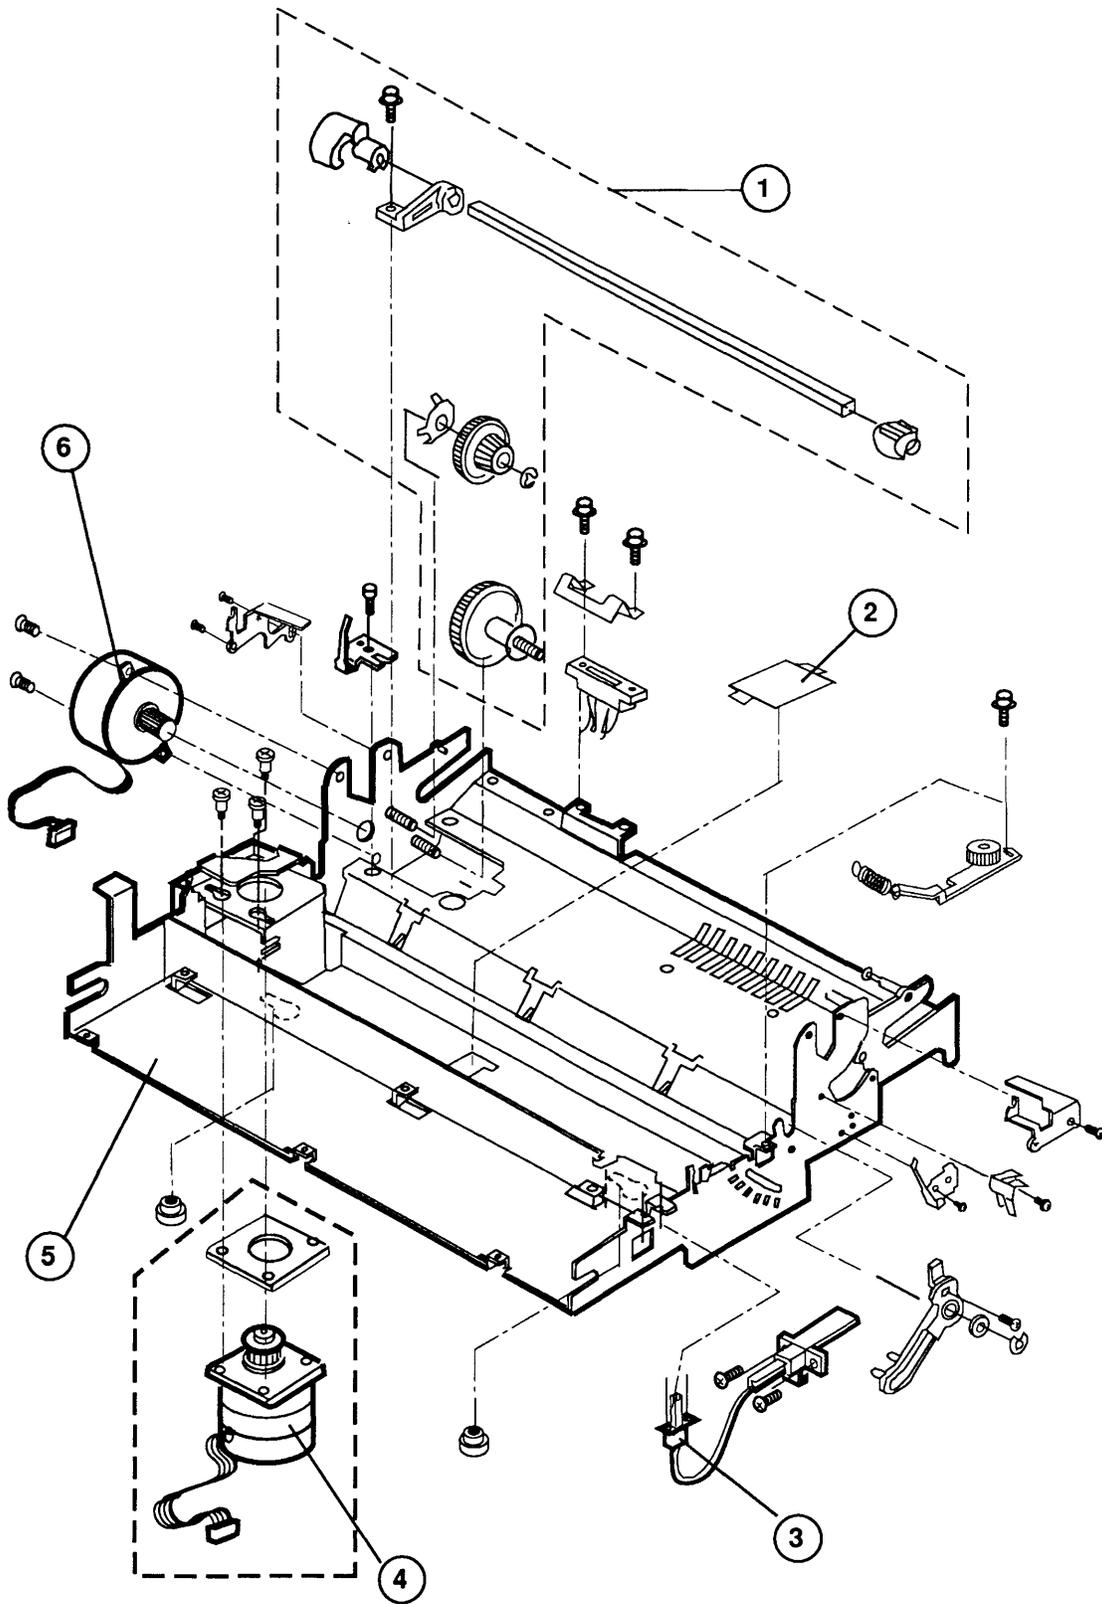

Figure 1
- IPL.5 Frame (Figure 1)
□ FRAME (Figure 1)
The following screws, E-clips, etc., are used in the parts shown in Figure 1: